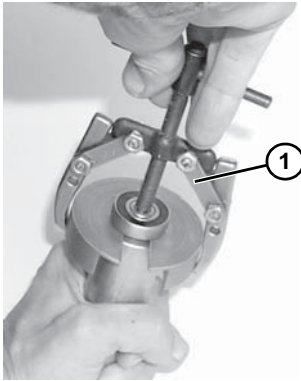

Figure 38
2. Using puller part #807-1716 (**Figure 38, item 1**), remove and discard bearing.